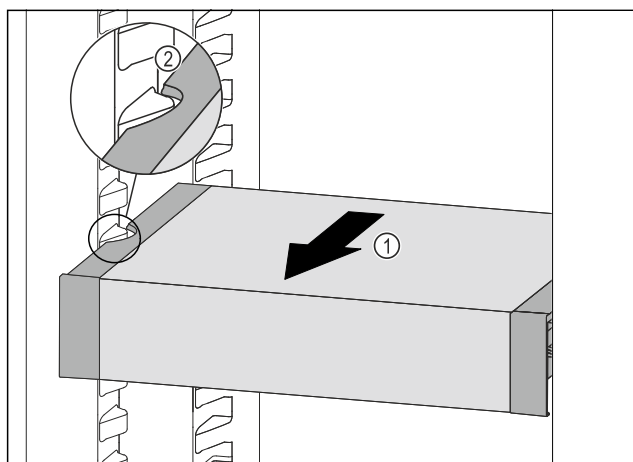

Fig. 121
- Pull VarioSafe forwards Fig. 121 (1) until the recesses in the side of the VarioSafe are at the level of the support rib in the fridge section. Fig. 121 (2)